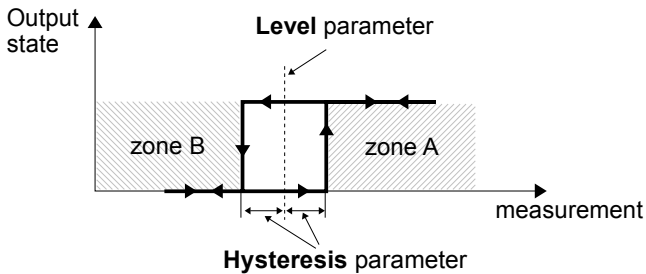
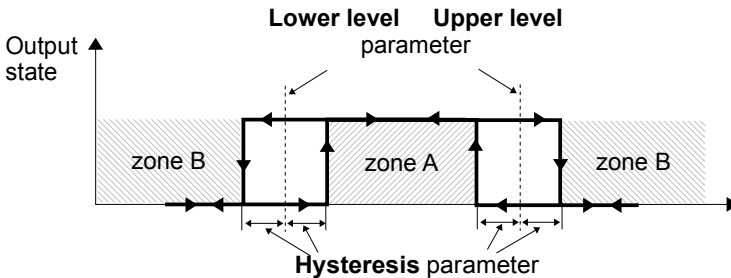

Fig. 7.87. One threshold control of the relay outputs
Fig. 7.88. Two threshold control of the relay outputs
- **Mode** - this parameter allows the user to select the method of operation of the output, the **Mode** parameter has the following options (see **Fig. 7.87** and **Fig. 7.88**):
Levels parameter block (see **Fig. 7.87**, **Fig. 7.88** and **Fig. 7.89**)
- **Hysteresis** – by defining this parameter the user can move the level for changes in the output state (see **Fig. 7.87** and **Fig. 7.88**),